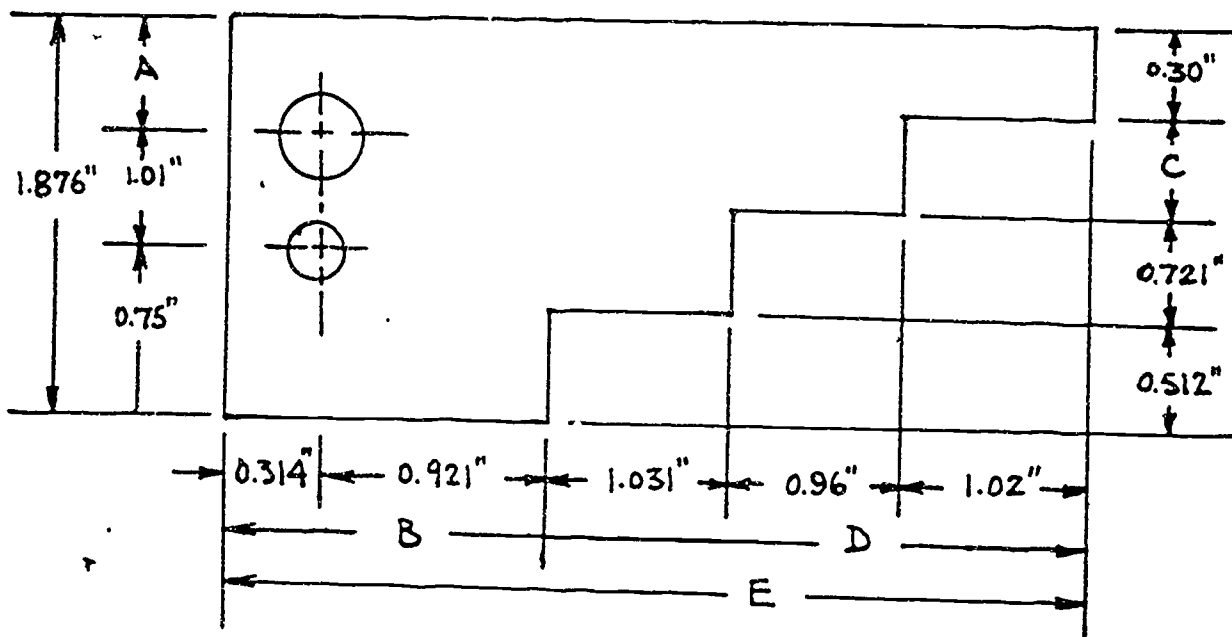

Figure 9: Find the missing dimensions.
7. Your job is to take a drawing sketch (Look at Figure 9), lay it out on sheet metal for cutting. Before you can lay it out you must find some missing dimensions. What are the missing dimensions A, B, C, D, and E?